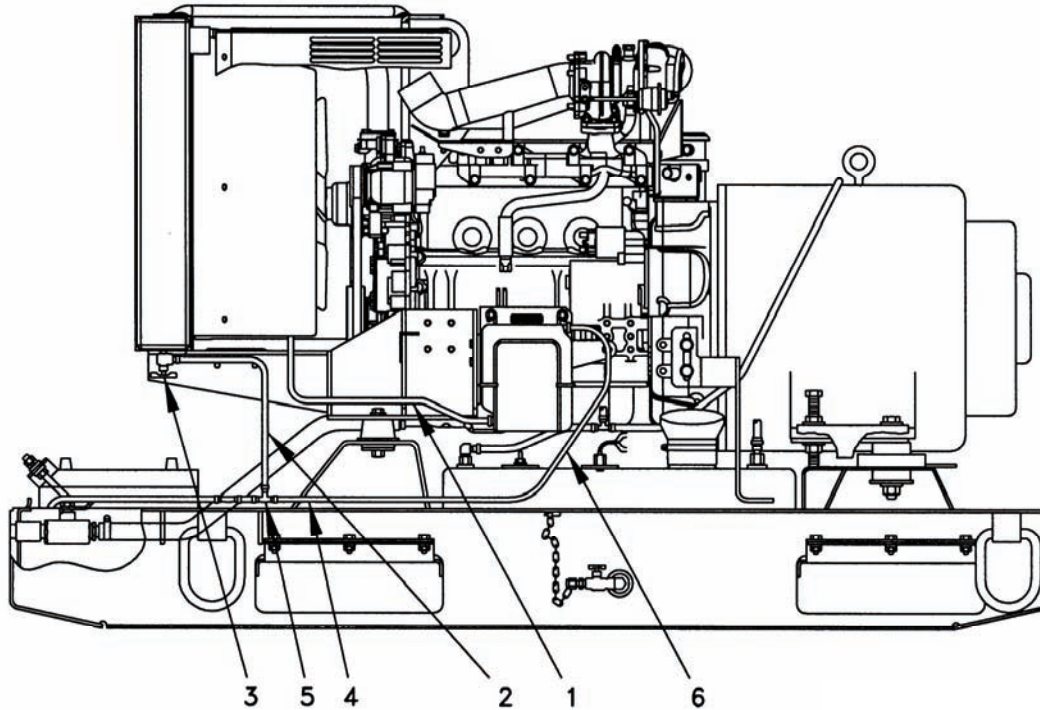

Figure 5-32. Coolant Hose.
- b. Hose (1, Figure 5-32) connected to bottom of coolant overflow bottle will be connected to spout on coolant filler hose and panel assembly to be installed later.
- c. Connect hose (2) retained from removal to radiator drain valve (3) using existing clamp.
- d. From old engine configuration there are a pipe T and length of hose coming off water drain line at approximately index number (4). This was connected to an engine drain port which is not needed on new engine.
- e. Remove pipe T (4) and hose branch plus short hose piece connected to T (5).
- f. Connect hose (6) to top of coolant overflow bottle and to T at hose (2).